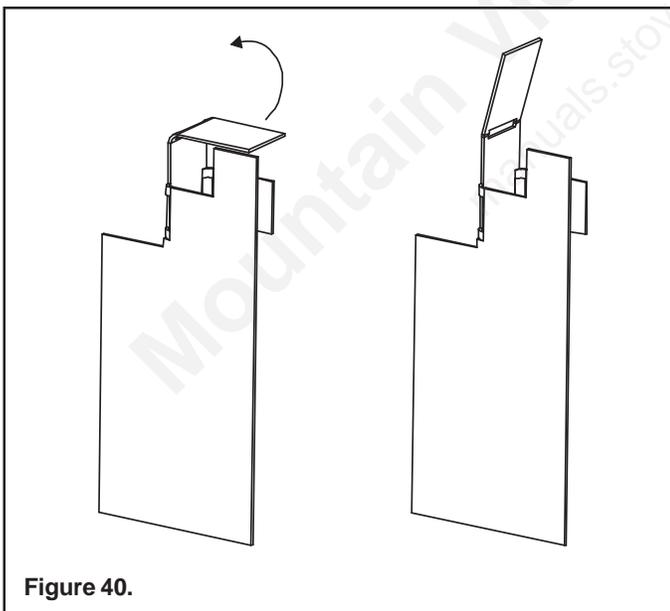

Figure 40.
- Bend top retaining tab of grate shipping support into vertical position (see Figure 40).